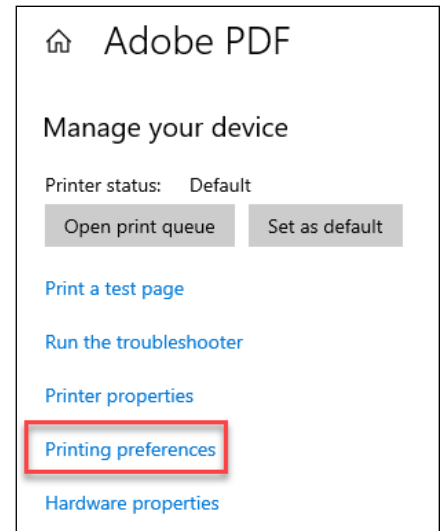

Figure 8a
- Select "Printer preferences" (Figure 8a).